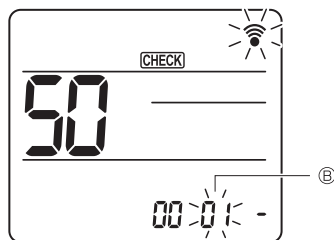

Fig. 3
Press the **[DOWN]** button to set Mode number ②. (Fig. 3)